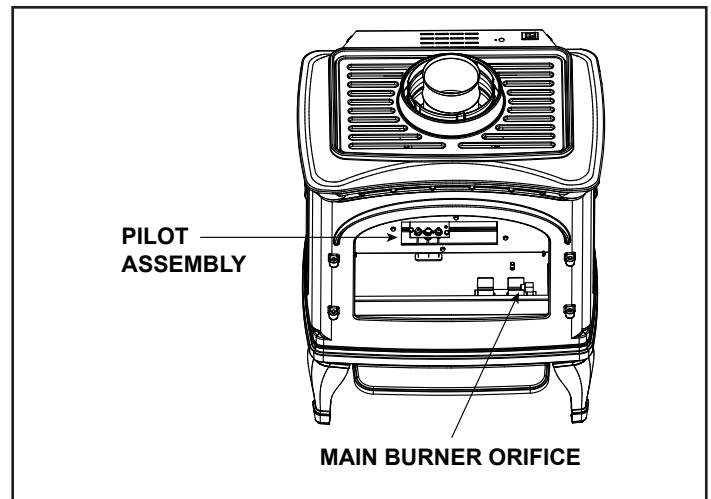
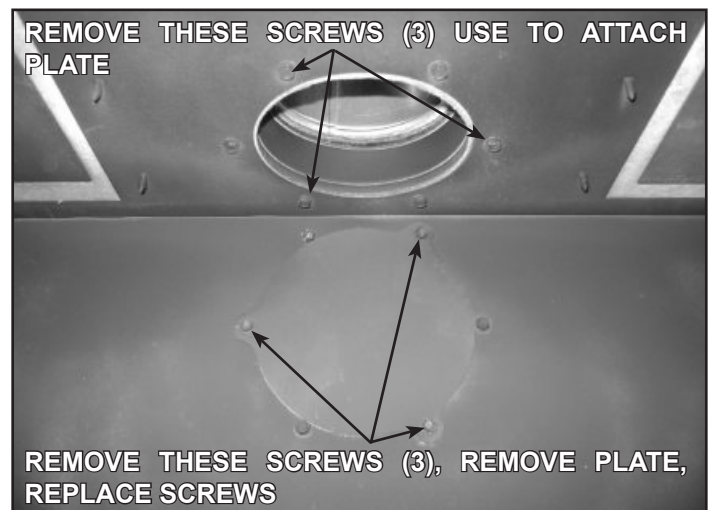

Figure 6.14
Figure 6.15
15. Using the 3/8" open end wrench, replace the main burner orifice with the orifice included in the conversion kit. Use appropriate orifice for gas type. See Figure 6.14.
17. On inside of firebox, remove plate and gasket on rear of firebox by removing three screws as shown in Figure 6.14. Discard gasket. Replace screws on rear of firebox. Remove three screws as shown in Figure 6.15. Attach plate and new gasket, included in kit, with three screws.